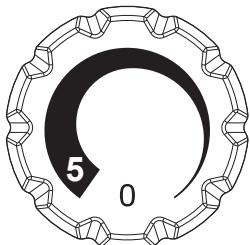

Fig. 9
- 1) Rotate the knob to the „0“ position (Fig .9)